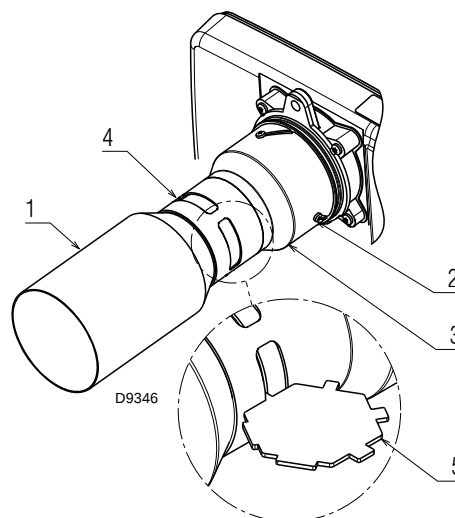

Fig. 18
- Loosen the screws 2) (Fig. 18) and slightly turn the flame tube 3). The required opening position is indicated in Tab. A, page 16. Use the template 5) supplied to adjust the combustion head, as shown in Fig. 18.